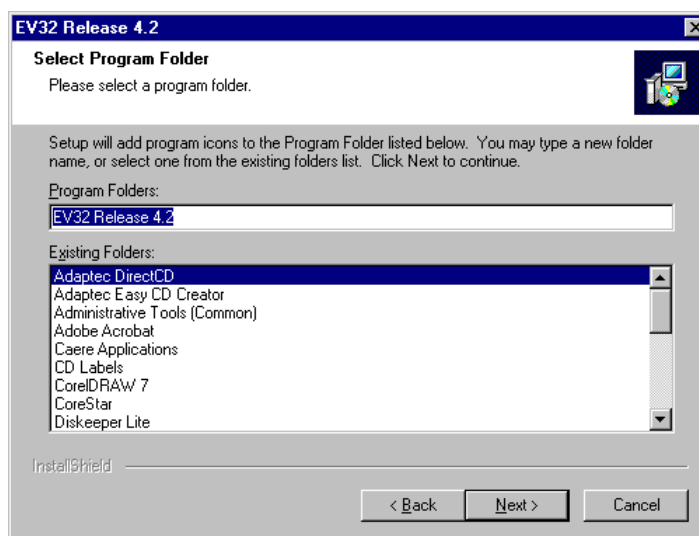
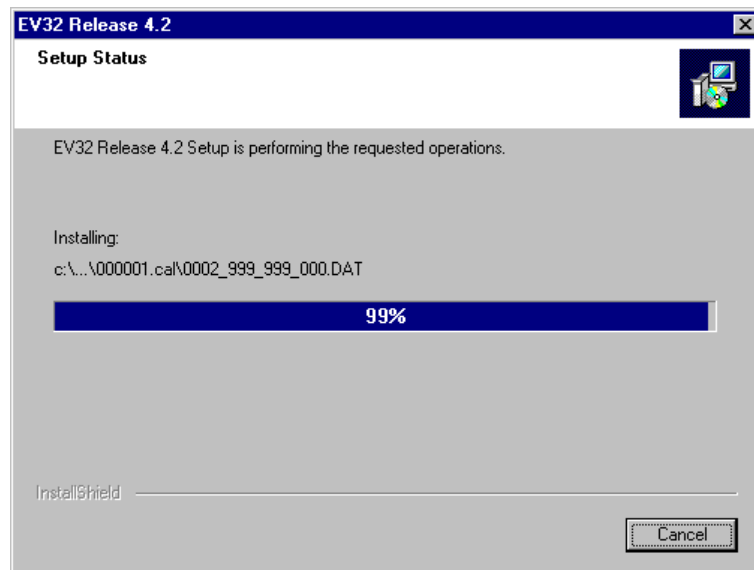
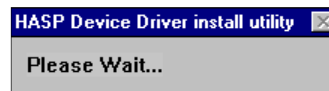
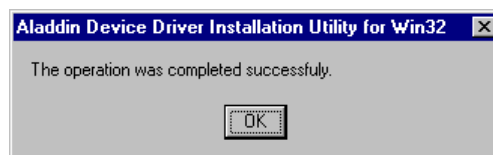

Figure 2-3. Program Folder Selection Window
Figure 2-4. Installation Status Window
Figure 2-5. HASP Device Driver Installation In-progress Message
Figure 2-6. HASP Device Driver Installation Completed Message
6. The window shown in Figure 2-3 appears. Either select, enter the name for a new program folder, or accept the default name where the program shortcuts will be stored on the Start Menu. The default name for the program folder is *EV32 Release 4.x* where *x* is the current release of version *EddyVISION32 v4*.
- Click the **Next** button on the window shown in Figure 2-3. The installation process begins. During the installation, the status window in Figure 2-4 will show the progress of the installation.
- When the status bar shown in Figure 2-4 reaches its end, the message box shown in Figure 2-5 will appear. This message box simply notifies you that the driver for the HASP™ security key is currently being installed. Once the driver is successfully installed, the message box shown in Figure 2-6 will appear. Simply click **OK** to continue. HASP is the brand name of the enable modules used with CoreStar software products that attach to the PC's printer port.